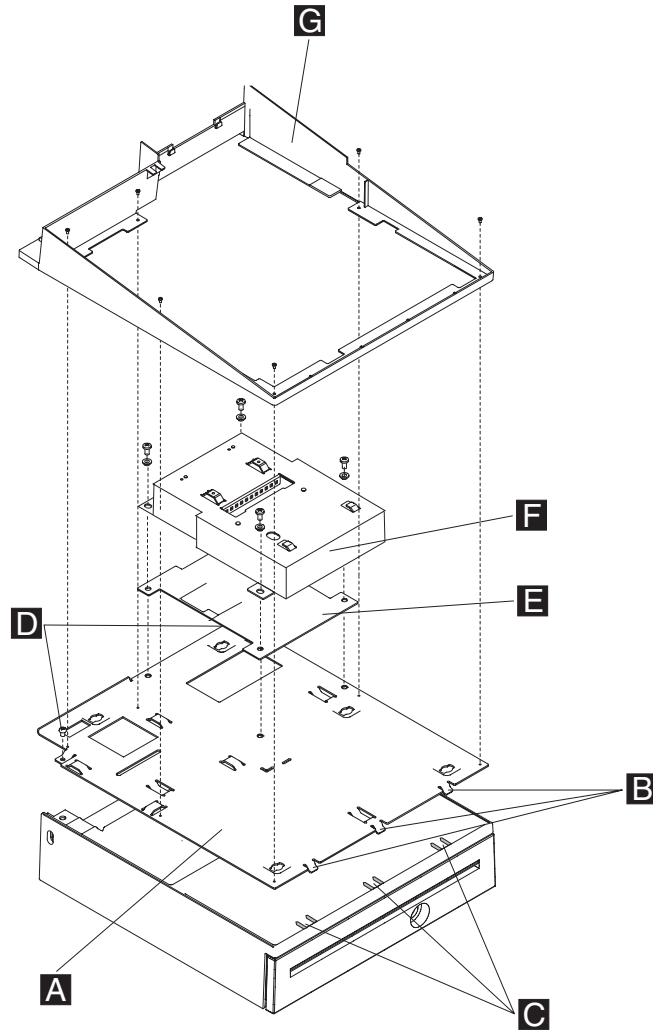

Figure 73. Removing the keyboard integration tray attached to a cash drawer
- a. Remove the fence **G** by removing the six small screws, as shown in Figure 73.